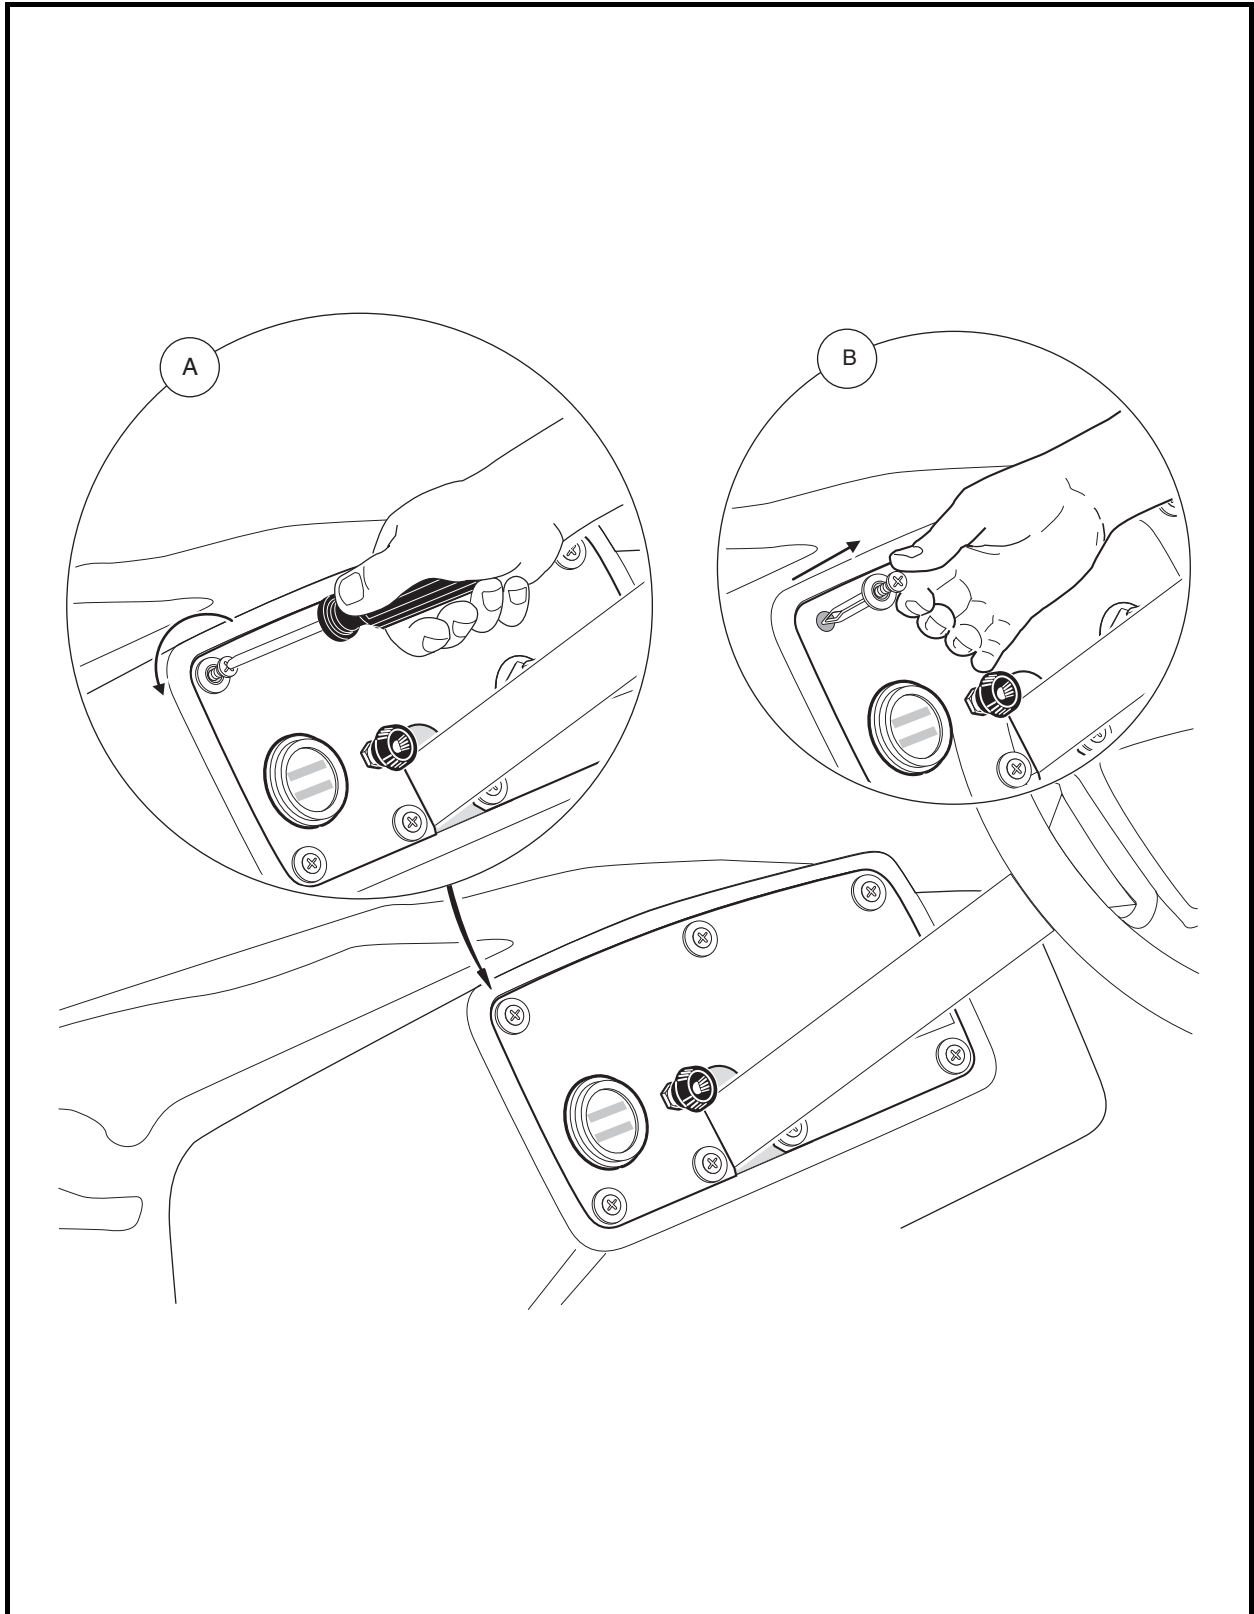

Figure 4-1 Dash Panel Removal
- 3.1. Loosen the seven Tuflok® screws shown in Detail A (**Figure 4-1, Page 4-4**).